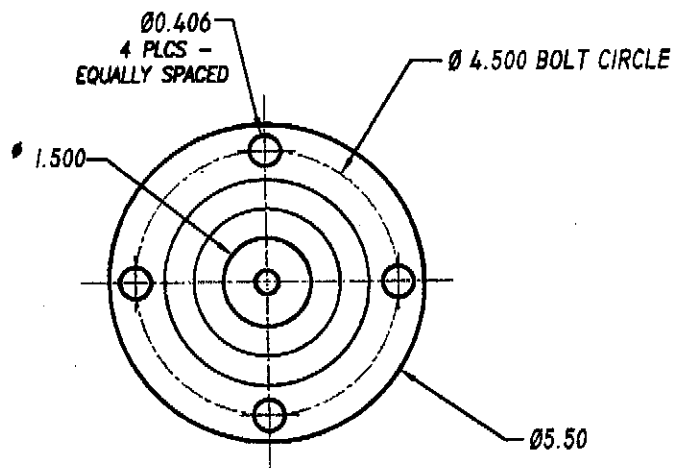

FIGURE 1
- 1) Drill four bolt holes on a flat, smooth table or work bench as indicated in Figure 1.